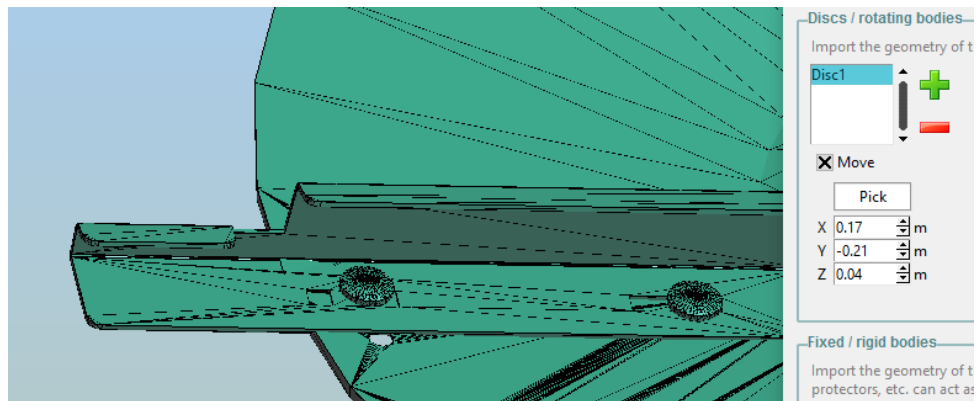

Figure 10. Move a model part once it has been imported.
- **Move option:** although it is highly advisable that the model parts are set on its proper position before importing them into SpreadDEM, you can translate parts following these steps (Figure 10):